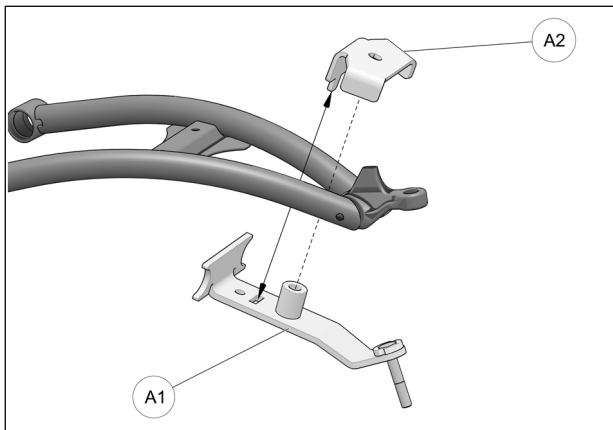

Fig. 14
5. Position bottom part of anchor bracket (**A1**) assembly under front lower suspension arm, as shown in the figure below. Position bracket cover (**A2**) over suspension arm and align holes in cover and bottom part. Refer to Fig. 14